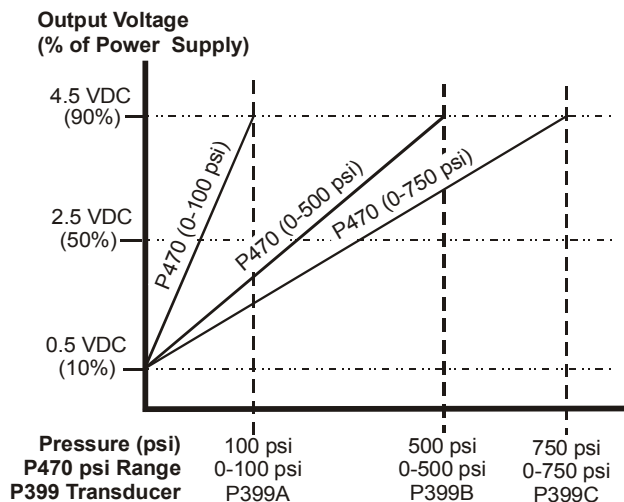

Figure 11: Pressure vs. Output Voltage
- The transducer output signal voltage (V_O) increases proportionally with an increase in the pressure at the transducer (psi_T). Use the graph in Figure 11 to compare the measured signal voltage to the measured pressure or use the formula below to compare the voltage and pressure values.